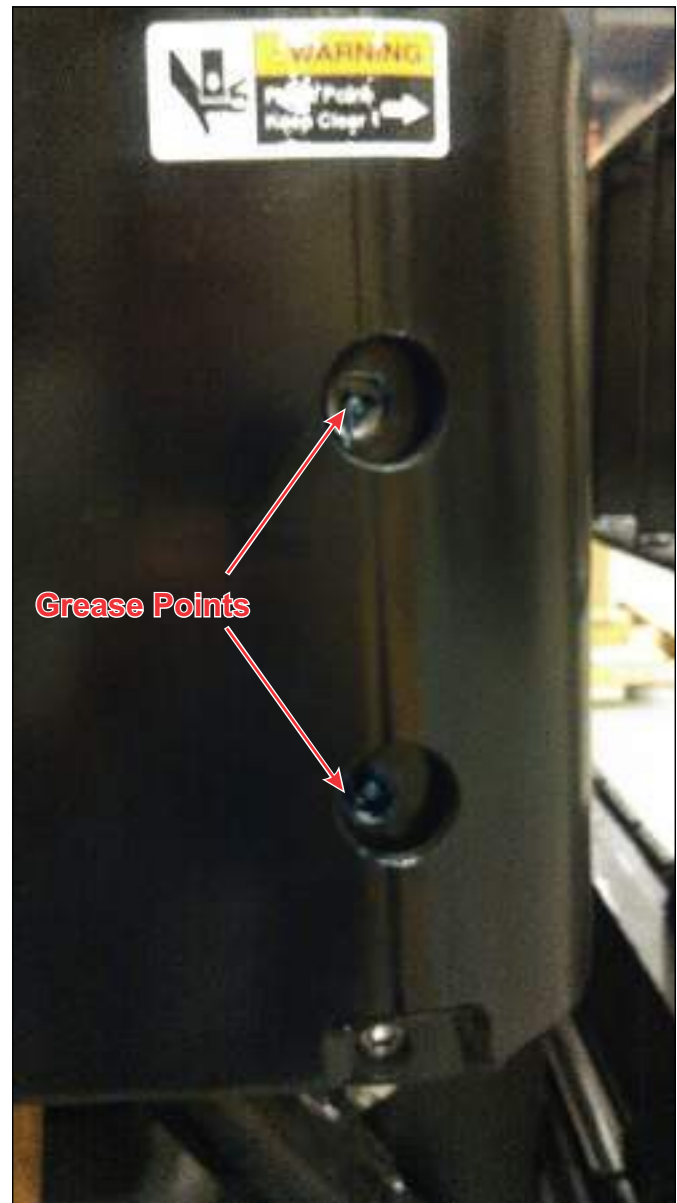

Figure 6-2 Main Rotation Bearings
3. Grease the upper and lower front rotation bearing fittings until fresh grease is squeezed from the lower bearing. **See Figure 6-2.**